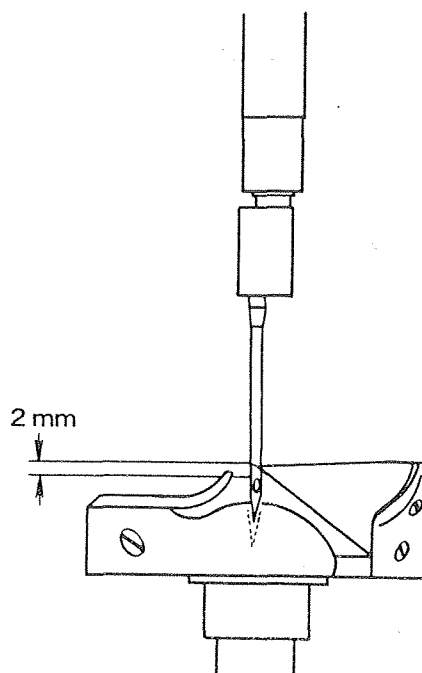

FIG. 45
- 5) Turn handwheel toward you allowing needles to rise. When the rotating hook point crosses the centerline of the rising needle, it should be 2mm (5/64") above the upper end of the eye of the needle. Adjust if necessary. (Fig. 45)